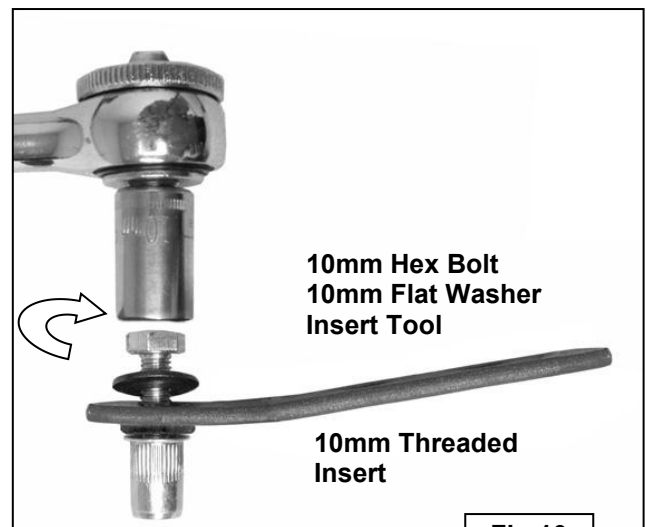

Fig 10
13. Firmly hold the handle on the Tool and tighten the hex bolt in the Insert until it is fully collapsed and locked in place, **(Figures 10 & 11)**. **NOTE:** Do not over tighten the Insert or a pull out may occur. Once Insert is collapsed, remove the tool from the Insert.
14. Attach the Passenger/Right Center Mounting Bracket to the Threaded insert with (1) 10mm Hex Bolt, (1) 10mm Lock Washer and (1) 10mm Flat Washer. Do not tighten hardware. Repeat **Step 3** to attach the Bracket to the pinch trim.